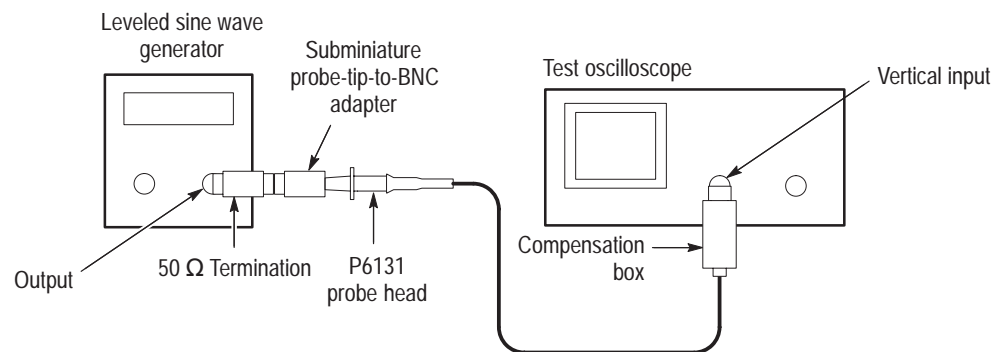

Figure 5: Bandwidth check setup
1. Connect the test setup as shown in Figure 5.